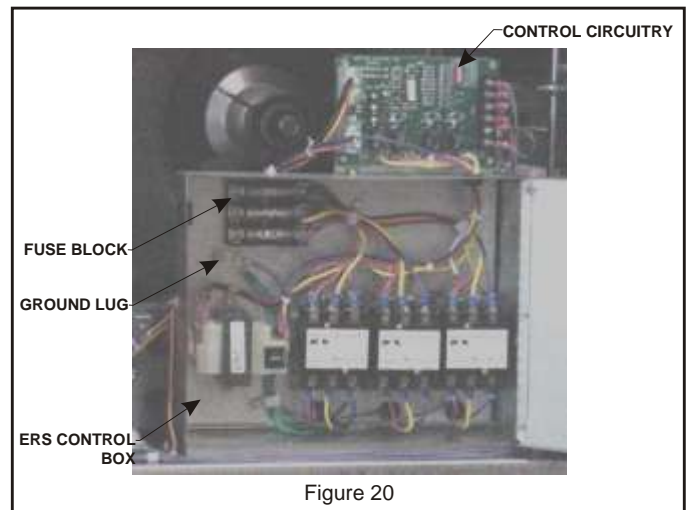

Figure 20
13. Connect line voltage power to ERS unit from ERS field provided or rooftop unit disconnect switch (disconnect must be properly sized). Then connect line voltage from disconnect switch through ERS knockout on middle post to control box per the wiring diagram. See **Figure 20**.